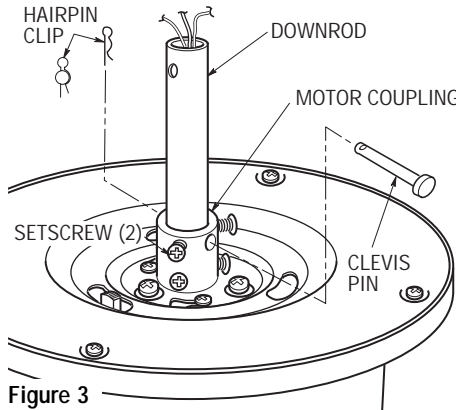

Figure 3
- 2. Unscrew the two upper setscrews (Figure 3) until they clear the inside of the motor coupling. Then separate, untwist and unkink the three 80" motor leads. Route the motor lead wires through the downrod. Align the clevis pin holes in the downrod with the holes in the motor coupling. Install the clevis pin and secure with the hairpin clip (Figure 3). The clevis pin must go through the holes in the motor coupling and the holes in the downrod. Be sure to push the straight leg of the hairpin clip through the hole near the end of the clevis pin until the curved portion of the hairpin clip snaps around the clevis pin. The hairpin clip must be properly installed to prevent the clevis pin from working loose. Pull up on the downrod to make sure the clevis pin is properly installed.
**It is critical that the clevis pin in the motor coupling is properly installed and the setscrews securely tightened. Failure to verify that the pin and setscrews are properly installed (as shown in Figure 3) could result in the fan falling.**
- 3. Tighten the setscrews (Figure 3) securely while pulling up on the downrod.